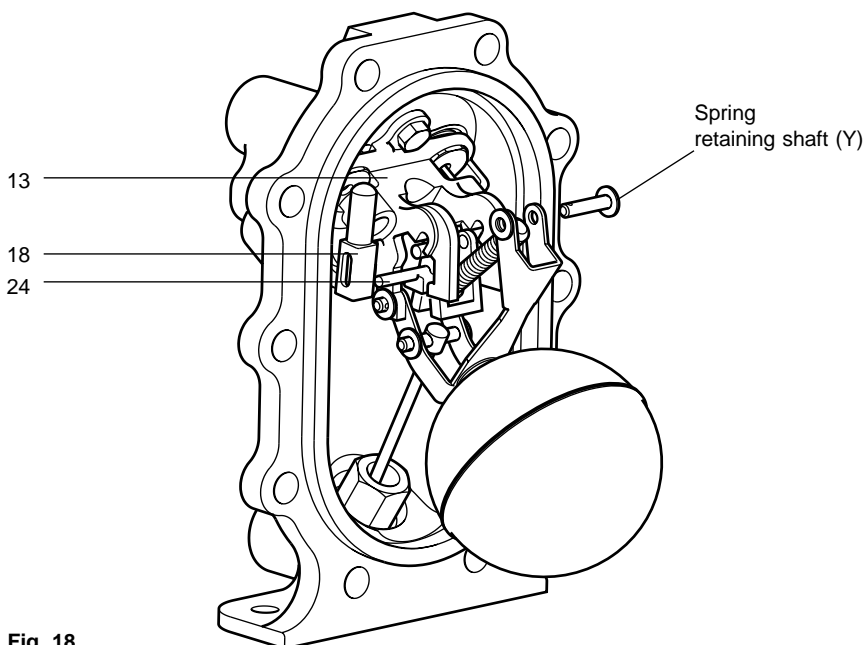

Fig. 18
4. Remove the split pin and washer, from the spring retaining shaft (Y). (See Fig. 18).
6. Draw the actuator arm downwards within its slots until the whole spring and actuator arm assembly with the exhaust valve comes free. It may be necessary to slide the exhaust valve (item 18) backwards against its internal spring to free it from the pump bracket guide (item 13).
8. Gently rotate the exhaust valve away from the tanged spigot of the actuator arm (item 24, shown in Fig. 18) being careful not to damage or lose the small exhaust valve compression spring.